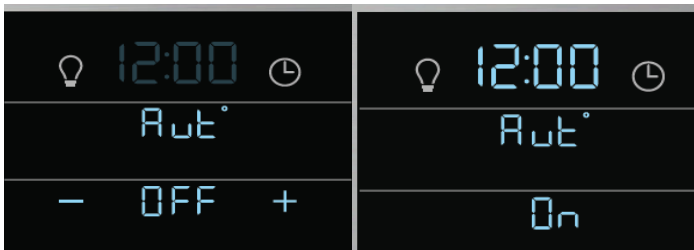

Figure 9: Convection convert off (L) and on (R)
- For best results when baking cakes using two oven racks, place Glide rack in position 4 with flat rack in position 1. (See Figure 9).